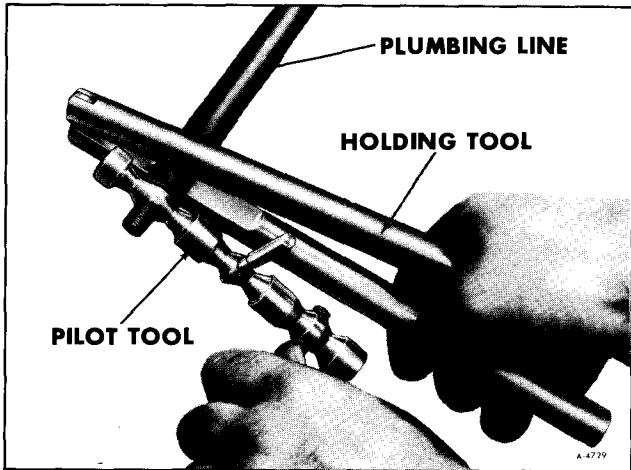

Figure 53—Flaring Plumbing Line
2. Turn the proper pilot out about 1/2 inch. Put the flare nut on the line and place the line to be flared over the pilot (figure 53).